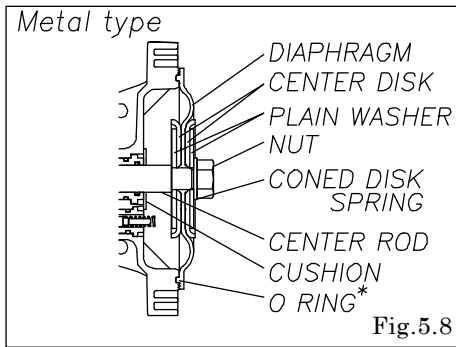
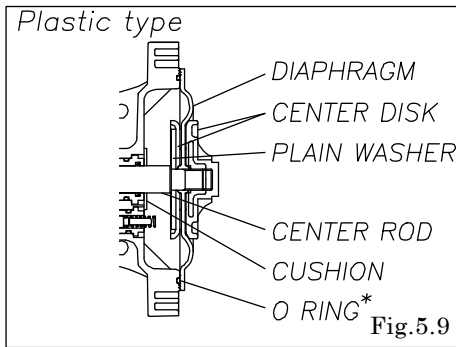

Fig. 5.8
Fig. 5.9
- For B□H, B□S and B□H/T attach O ring \* into the grooves on both sides of the body. [Fig.5.8] [Fig.5.9]
- Draw the center disk to one side, (cf. Fig.5.8) and install the out chamber. Tighten the bolts temporarily. (excluded B□H, B□S, B□H/T)
- Draw the center disk to the opposite side, then turn the diaphragm over (cf. Fig.5.8). And install the out chamber. Tighten the bolts temporarily. (excluded B□H, B□S, B□H/T)